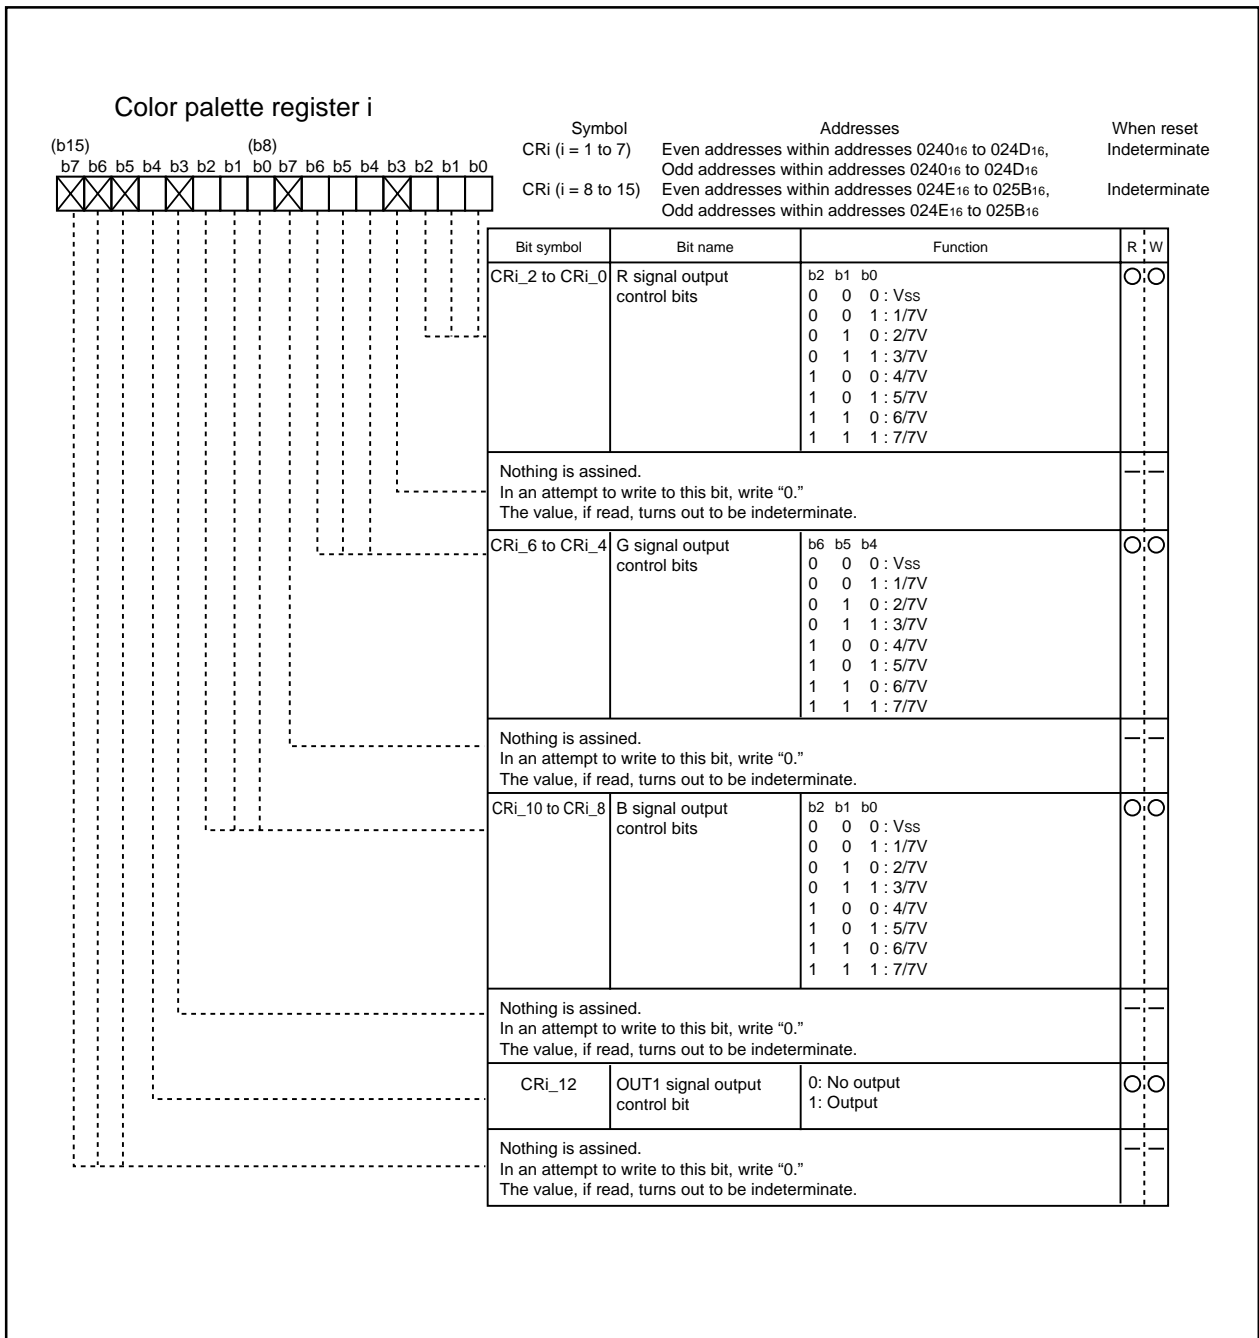
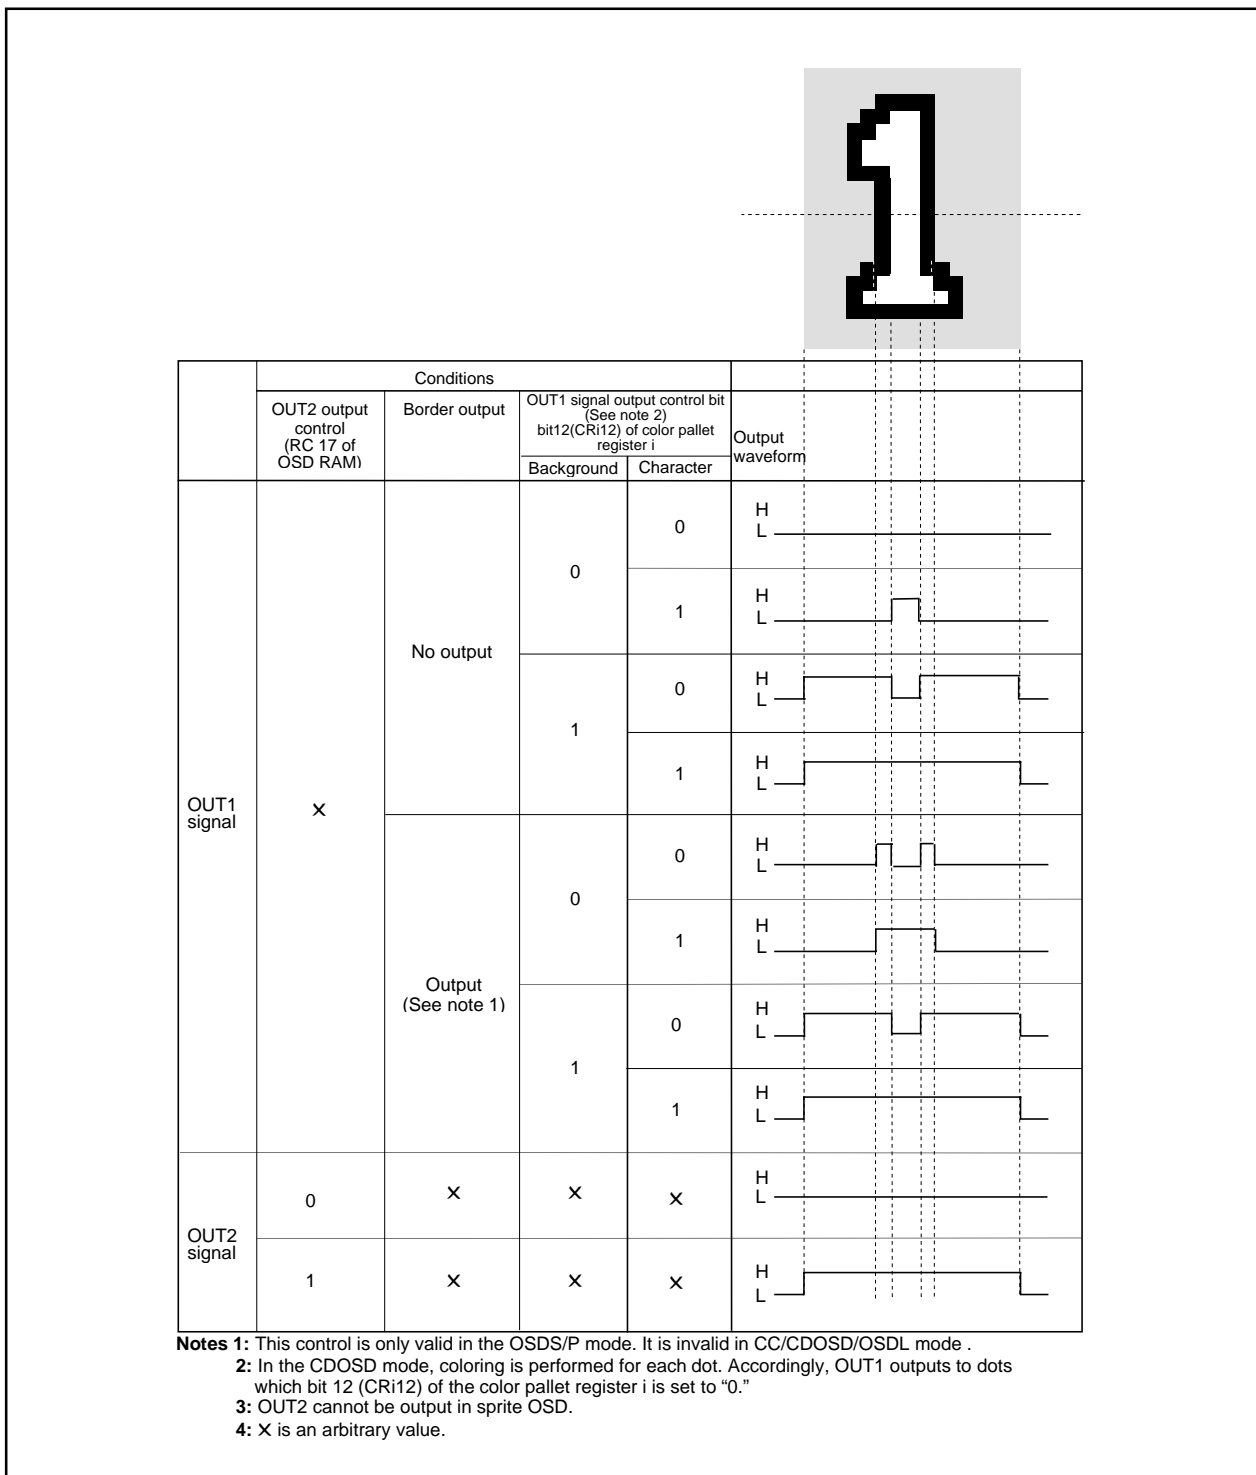

Figure 2.16.29 Color palette register i (i = 1 to 7, 9 to 15)
Figure 2.16.30 Setting value for controlling OUT1, OUT2 and corresponding output waveform
The OUT1, OUT2 signals are used to control the luminance of the video signal. The output waveform of the OUT1, OUT2 signals is controlled by bit 6 of the color palette register i (refer to Figure 2.16.29), bits 0 to 2 of the block control register i (refer to Figure 2.16.4) and RC17 of OSD RAM. The setting values for controlling OUT1, OUT2 and the corresponding output waveform is shown in Figure 2.16.30.
The display example attribute is shown in Figure 2.16.30. In this case, "R" is displayed.
- 4: When the pre-divide ratio = 1, the italic character with slant of 1 dot X 5 steps is displayed ; when the pre-divide ratio = 2, the italic character with slant of 1/2 dot X 10 steps is displayed (refer to Figure 2.16.30 (c), (d)). However, when displaying the italic character with the pre-divide ratio = 1, set the OSD clock frequency to 11 MHz to 14 MHz.